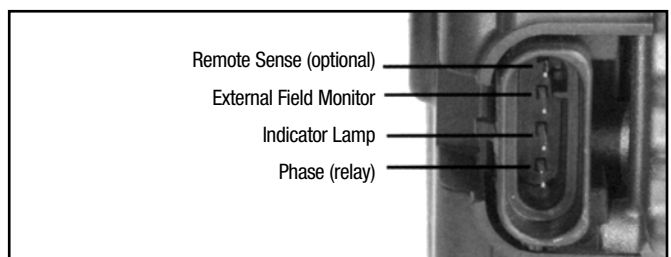

Figure 13. 24SI Packard Connector
- The regulator’s packard connector (Figure 13) is environmentally sealed.